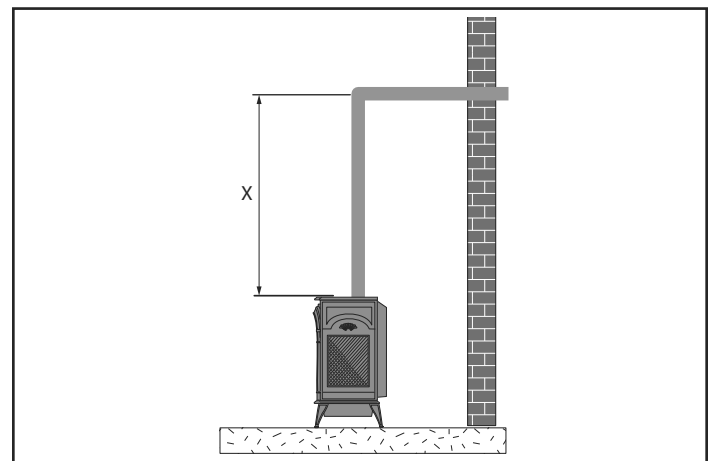

Figure 3.18 - Vertical Height Requirements
3. Place stove into position. Measure the vertical height (X) required from the base of the flue collars to the center of the wall opening. Figure 3.18